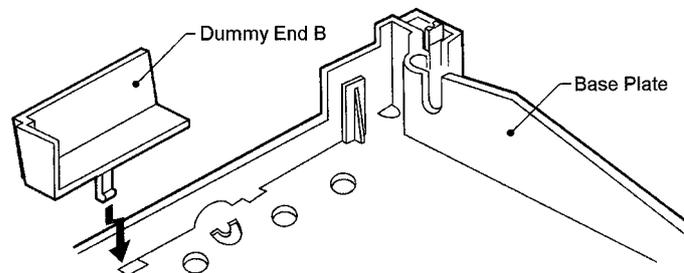

**Figure 4-36: Cutting Dummy End in Half**
- Cut the dummy end in half as shown in *Figure 4-36:: Cutting Dummy End in Half, Pg 80*.